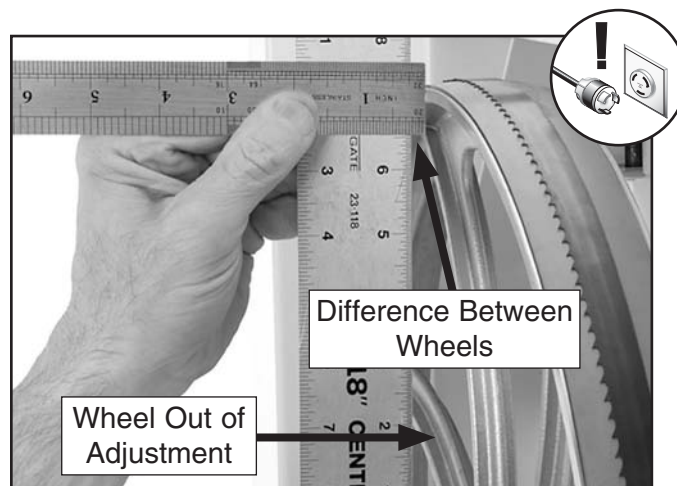

Figure 87. Determining distance needed to shim upper wheel.
3. With a straightedge touching both points of the lower wheel, measure the distance away from the upper wheel, which is out of adjustment (see **Figure 87**).